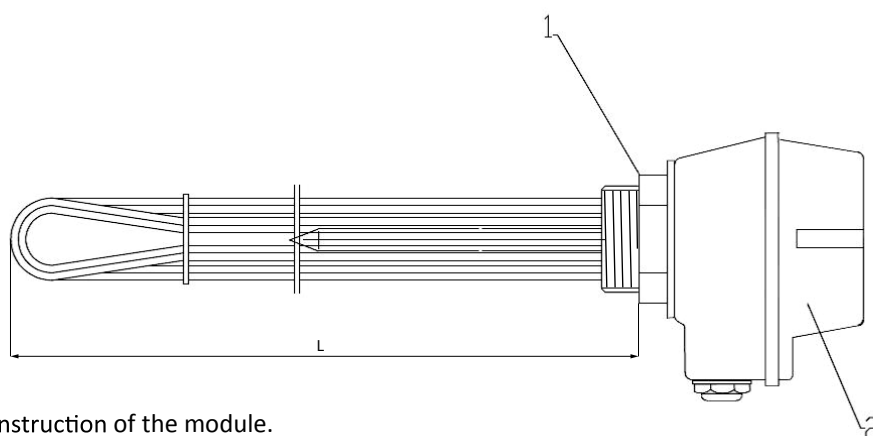

Fig. 1 Construction of the module.
2. Unscrew the plug protecting the connector pipe. Screw-in the electrical module instead of the plug (Fig. 1 position 1) – seal the thread with oakum or other sealing means available.
6. Unscrew the box front side (Fig. 1 position 2).